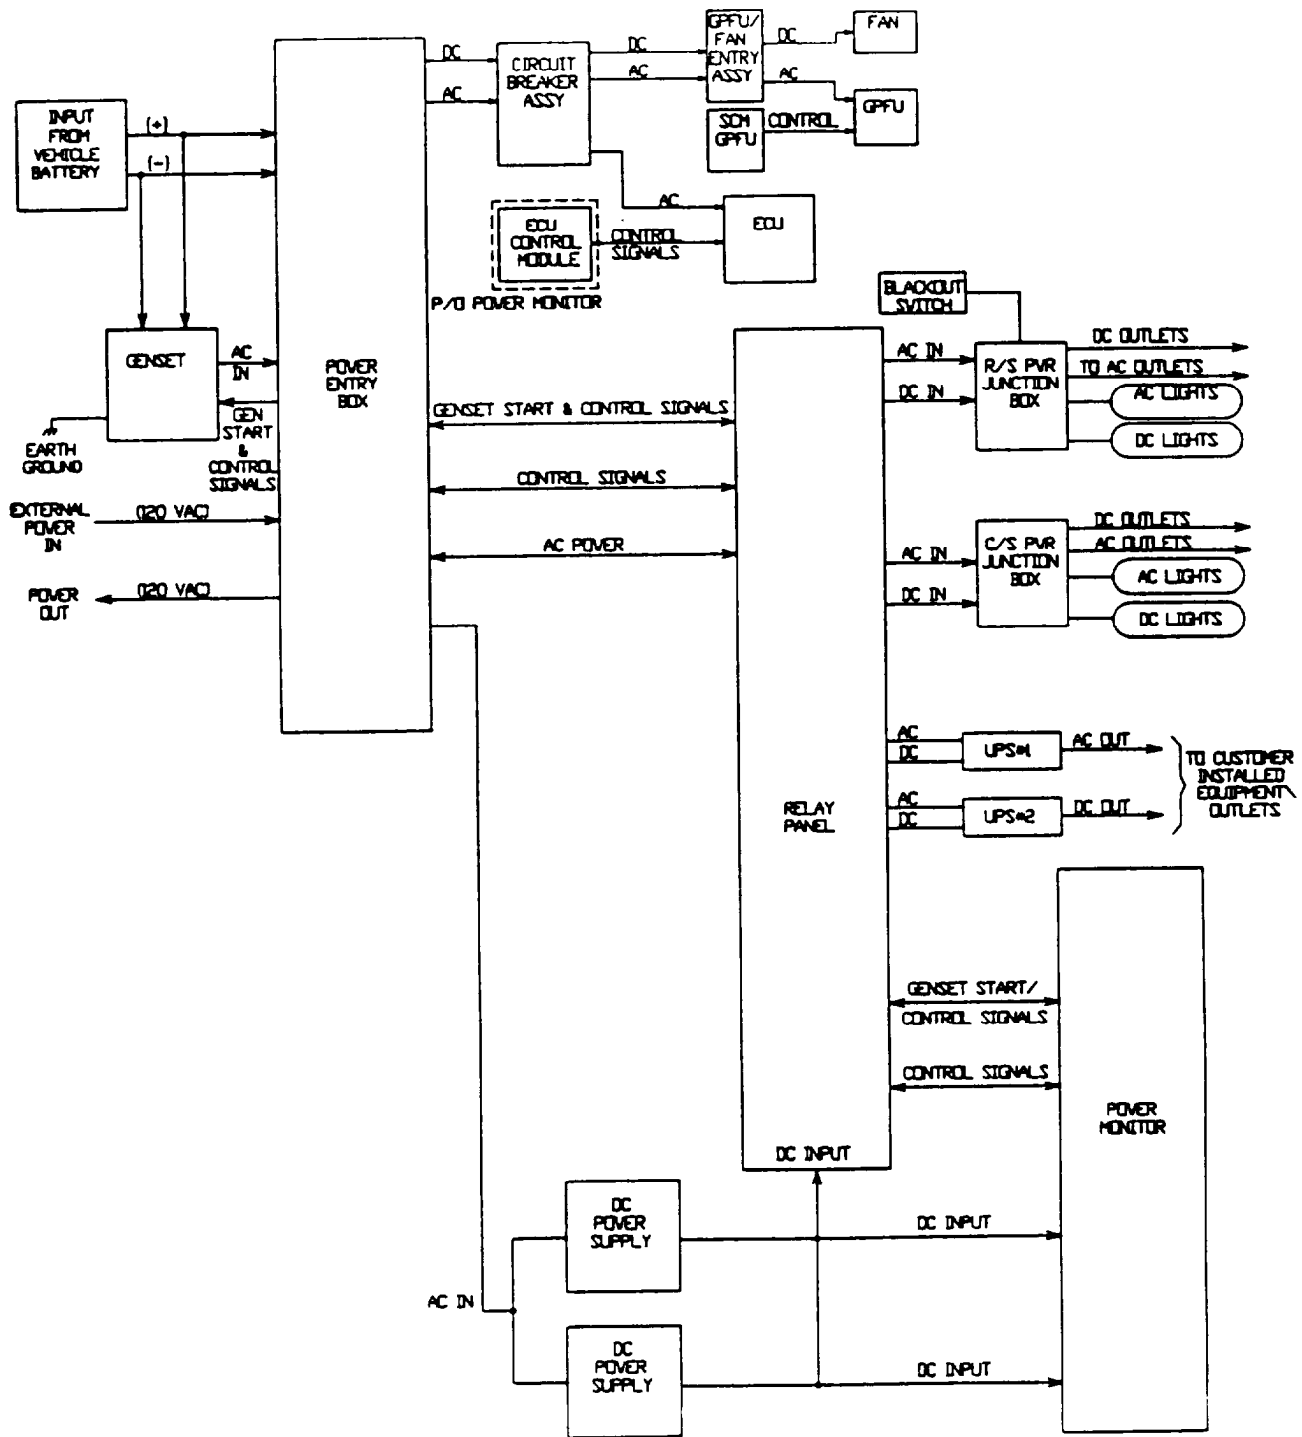

Figure 1-22. Block Diagram
**1-13. POWER DISTRIBUTION.** The following paragraphs provide a block diagram description of the SICPS shelter's power distribution system. Reference figure 1-22 when reading the following paragraphs.